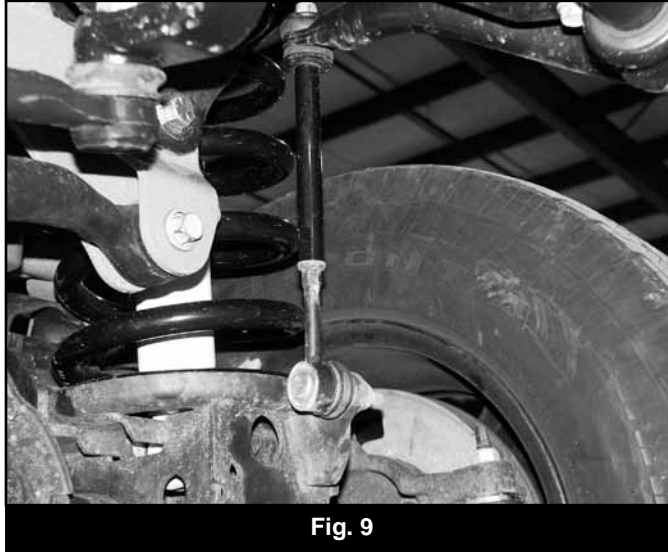

Fig. 9
31. Apply loctite to the threads on the OE sway bar links. Thread the provided link extension (01249) on the OE links and tighten securely. Attach the extension to the sway bar with the OE washers, bushings and nuts. Tighten the nut until the bushings begin to swell. (Fig. 9)